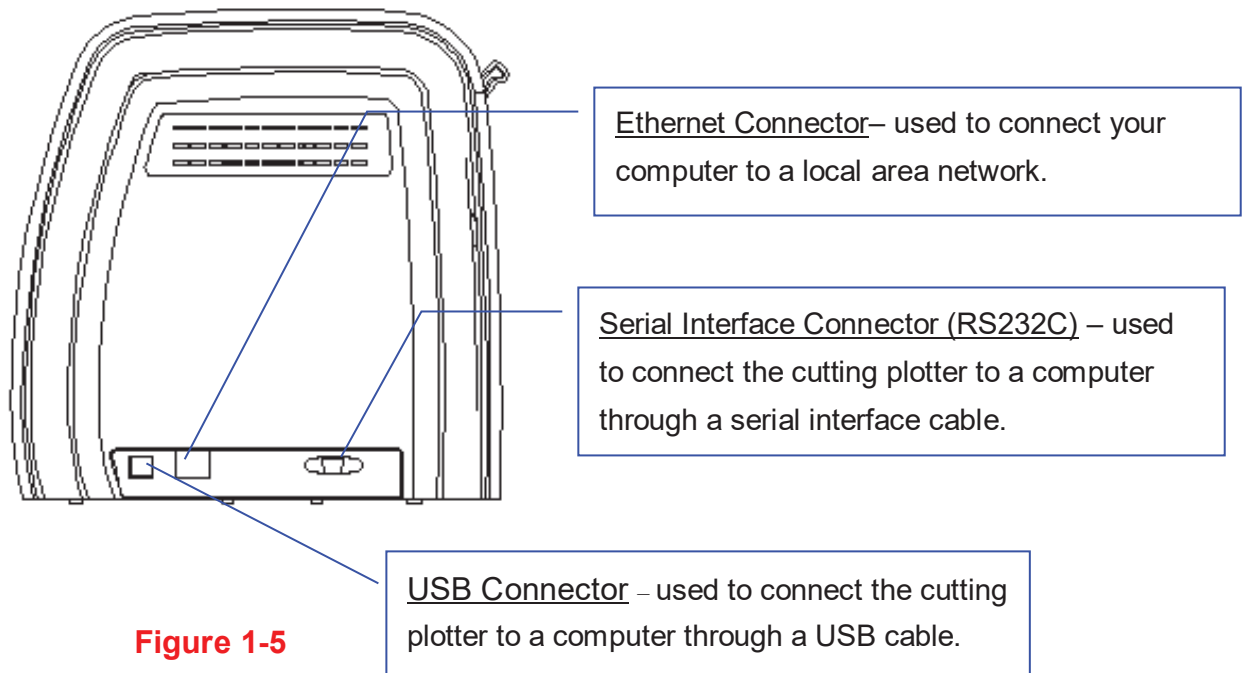

Figure 1-5
1.4.5 The Right-hand Side (Figure 1-5)